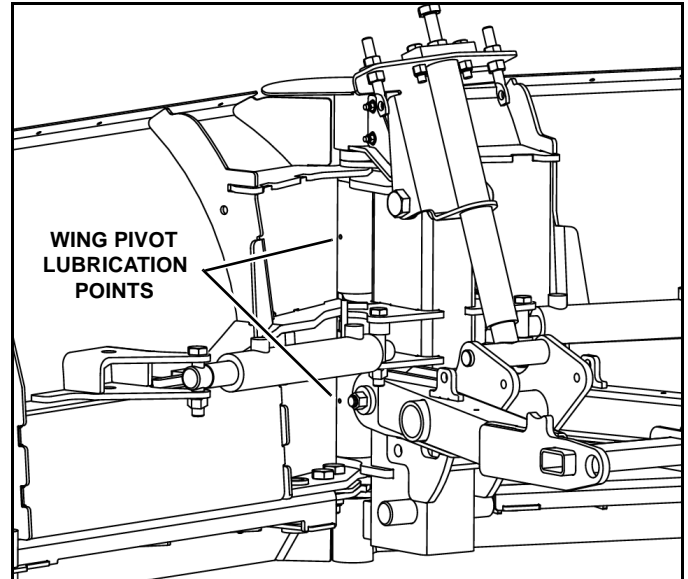

Figure 1-34
3. Apply oil or grease to the wing pivot pin through two lubrication holes provided in the pin housing. (See Figure 1-34).